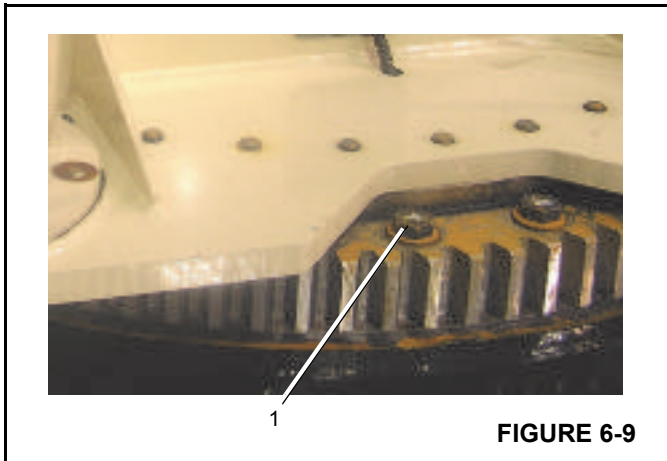

FIGURE 6-9
The outer race bolts (1) are located on top of the bearing (Figure 6-9).